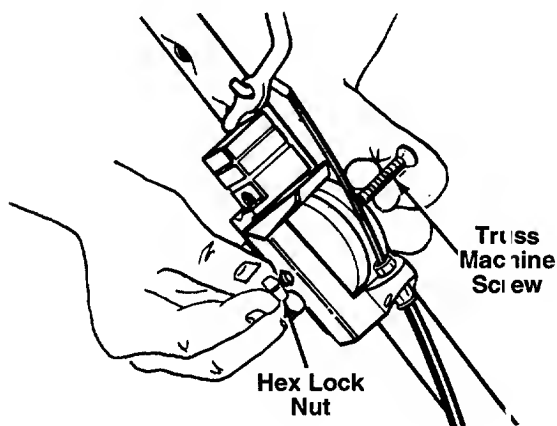

FIGURE 4.
- ← 5. Place the control box on the upper handle just below the end of the control handle as shown in figure 4. Secure with hardware removed in step one by placing hex lock nut into the indent on the inside of the control box. Screw the truss machine screw into the hex lock nut.